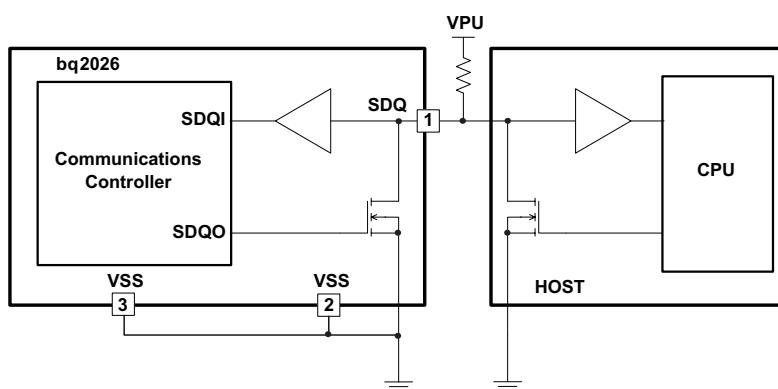

Figure 1. Bus Termination Example for SOT-23 Package
(1) 5-k Ω series resistor between SDQ pin and V_{PU} . (See Figure 1)
Because the drive output of the bq2026 is an open-drain, N-channel MOSFET, the host must provide a source current or a $5\text{-k}\Omega$ external pullup, as shown in the typical application circuit in Figure 1.